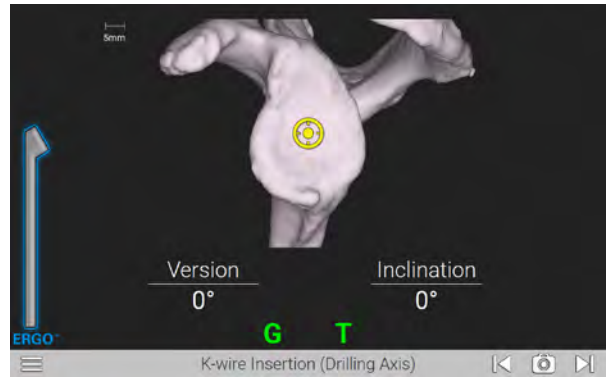

Figure 2
- For positioning of the drill, the tip of the drill is indicated by a yellow dot (Figure 2).